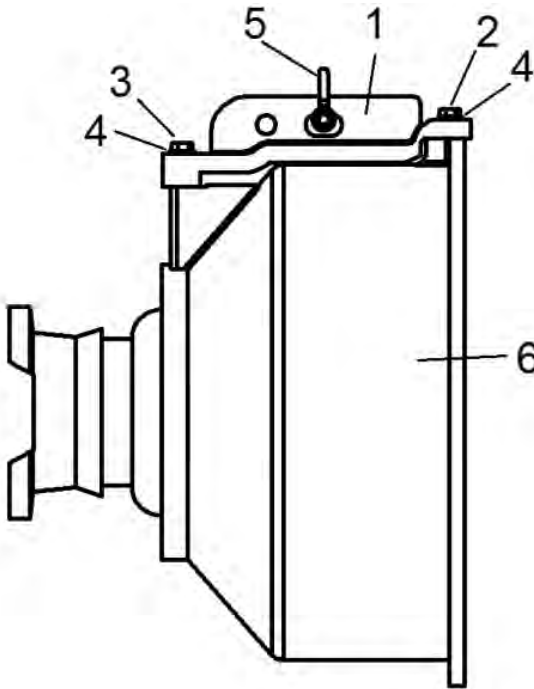

Figure 4. (1) Tool, (2) 0S-1625 bolt, (3) 1D-4585 Bolt, (4) 8T-4122 Washers, (5) 5P-8622 Shackle, (6) Torque converter (removal position)
3. Attach the removal tool (1) to torque converter (6) using 5/8 – 11 x 2.50 UNC Bolt (2), 5/8 – 11 x 3.25 UNC (3), and two 5/8 washers (4). Tighten bolts to 60 N·m (see figure 4)
4. Attach the screw pin shackle (5) to straight slot in R&I tool
2. Attach the removal tool (1) to torque converter (6) using 5/8 – 11 x 2.50 UNC Bolt (2), 5/8 – 11 x 3.25 UNC (3), and two 5/8 washers (4). Tighten bolts to 60 N·m (see figure 4)
3. Attach Screw Pin Shackle (5) to circular hole in R&I tool